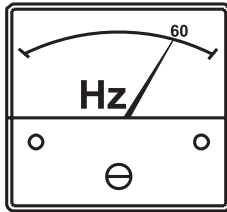

Figure 47. Frequency Meter
- The generator's **frequency meter** (Figure 47) should be displaying the 60-cycle output frequency in **HERTZ**.